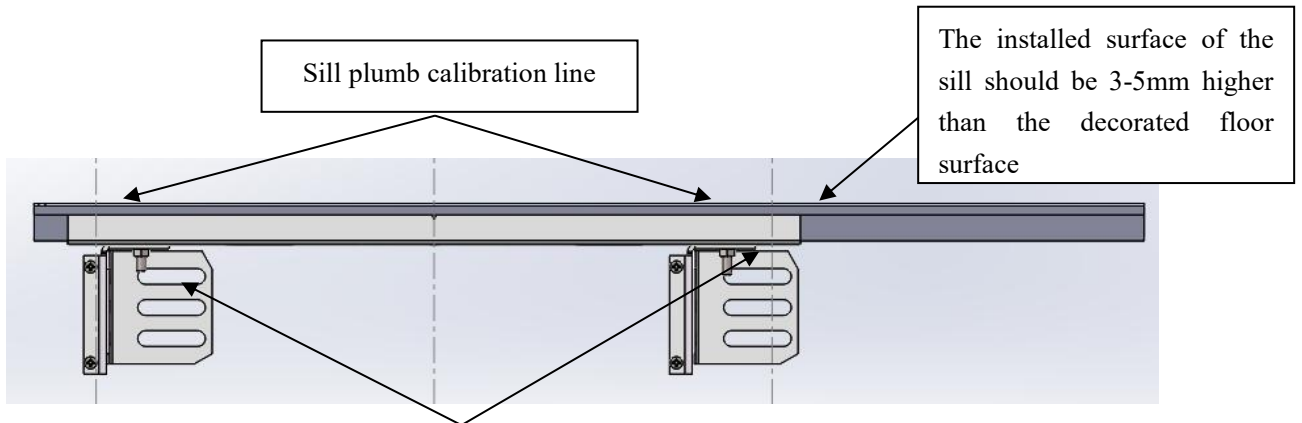

Figure 10
3. Determine the position of the mounting holes for the brackets at both ends and make a mark at this position. As shown in Figure 10